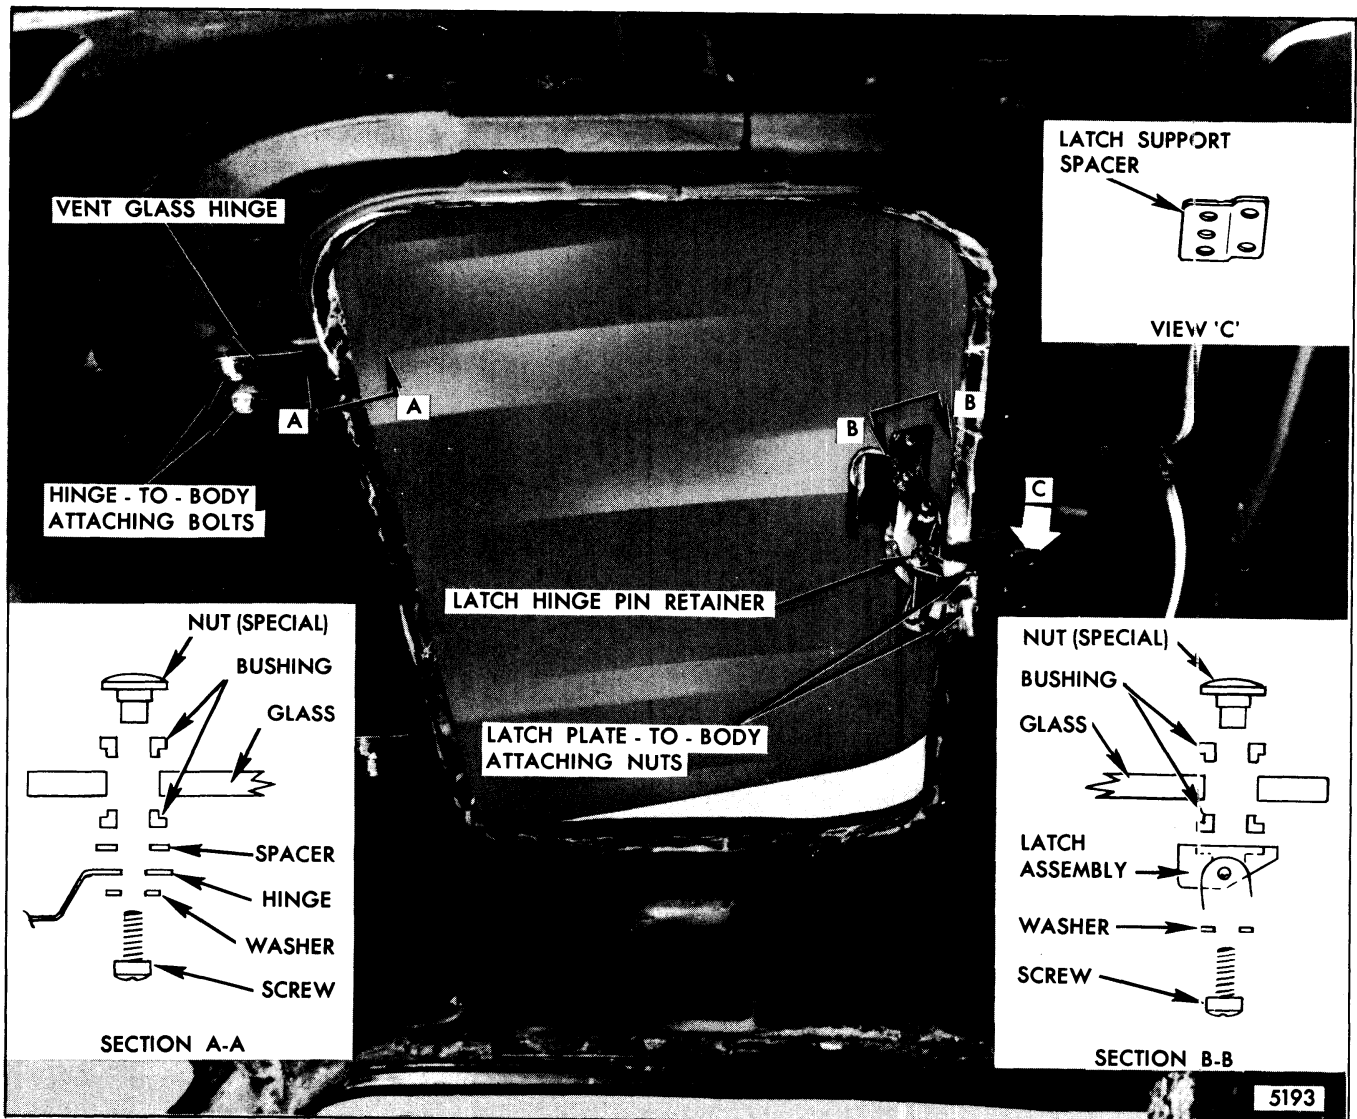

Fig. 8-12-Vista Vent Hardware (Headlining Removed for Illustrative Purpose Only)
2. Detach headlining from inner panel reinforcement at glass hinge areas sufficiently to provide access to hinge-to-body attaching bolts (Fig. 8-12).
3. Loosen hinge-to-body and latch-to-body attachments, align glass and tighten attachments (Fig. 8-12).
2. Detach headlining at glass attaching screw access slot(s) in roof inner panel reinforcement (Fig. 8-12).
3. Remove hinge-to-glass attaching screw(s) and add spacer (Part No. 9660355 or equivalent) to raise glass or remove existing spacer to lower glass at either or both hinges. Replace hinge to glass attaching screw(s) and torque to 26-38 inch pounds (Section A-A, Fig. 8-12).
2. Detach headlining sufficiently to remove latch plate-to-body attaching nuts. Disengage latch plate from studs by pivoting plate down and forward (Fig. 8-12).
3. Add spacer (Part No. 9660357 or equivalent) to lower glass or remove existing spacer to raise glass (View "C", Fig. 8-12).
2. Detach headlining at glass attaching screw access slots in roof inner panel reinforcement (Fig. 8-12).
3. Remove hinge-to-glass attaching screws (right and left) and observe number of spacers used between hinge and bushing (Section A-A, Fig. 8-12).
4. Remove "E" ring retainer from end of latch assembly hinge pin and remove pin (Fig. 8-12). Remove vent glass from body with upper portion of latch assembly attached to glass.
and bushings (upper and lower) from original glass to new glass as a bench operation. Torque latch-to-glass attaching screws to 26-38 inch pounds (Section B-B, Fig. 8-12).
2. Load glass into opening, join upper and lower halves of latch assembly and insert hinge pin and secure with "E" ring retainer (Fig. 8-12).
3. Assuring that hinge-to-glass special nuts, upper and lower bushings are in place, load screw and spacer(s) at each hinge and drive screws to 26-38 inch pounds torque. Cycle vent glass to check proper alignment (Section A-A, Fig. 8-12).
2. Detach headlining from roof inner panel reinforcement at glass hinge area(s) sufficiently to provide access to hinge-to-body attaching bolts and remove bolts (Fig. 8-12).
3. Remove hinge-to-glass attaching screw(s) and observe number of spacers used between hinge and bushing (Section A-A, Fig. 8-12).
3. With latch assembly pivoted forward, remove latch-to-glass attaching screws and remove latch assembly (Section B-B, Fig. 8-12).